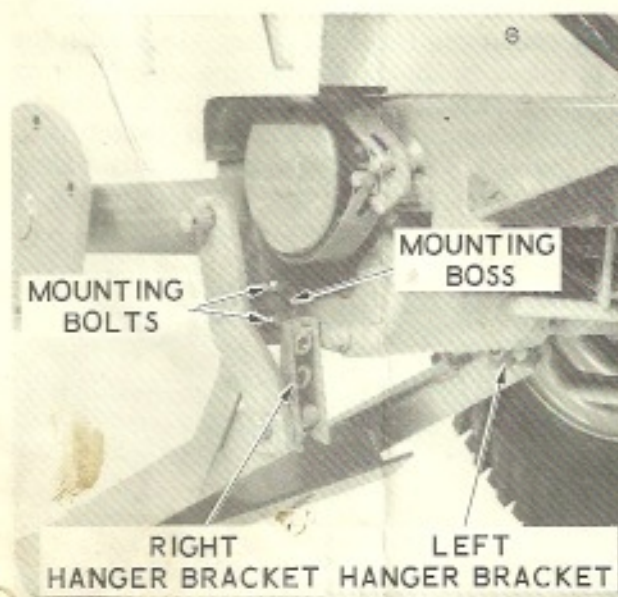

Figure 4. Attaching The Hitch To Transaxle
1. Attach the left hanger bracket loosely to the front of the left transaxle mounting boss at the upper hole only using one 1/2" bolt and lockwasher. See Figure 4.
3. Place the hitch onto the left hanger bracket pin and raise or block the right side into alignment in front of the transmission mounting boss. Secure with the four 1/2" bolts and lockwashers. See Figure 4.